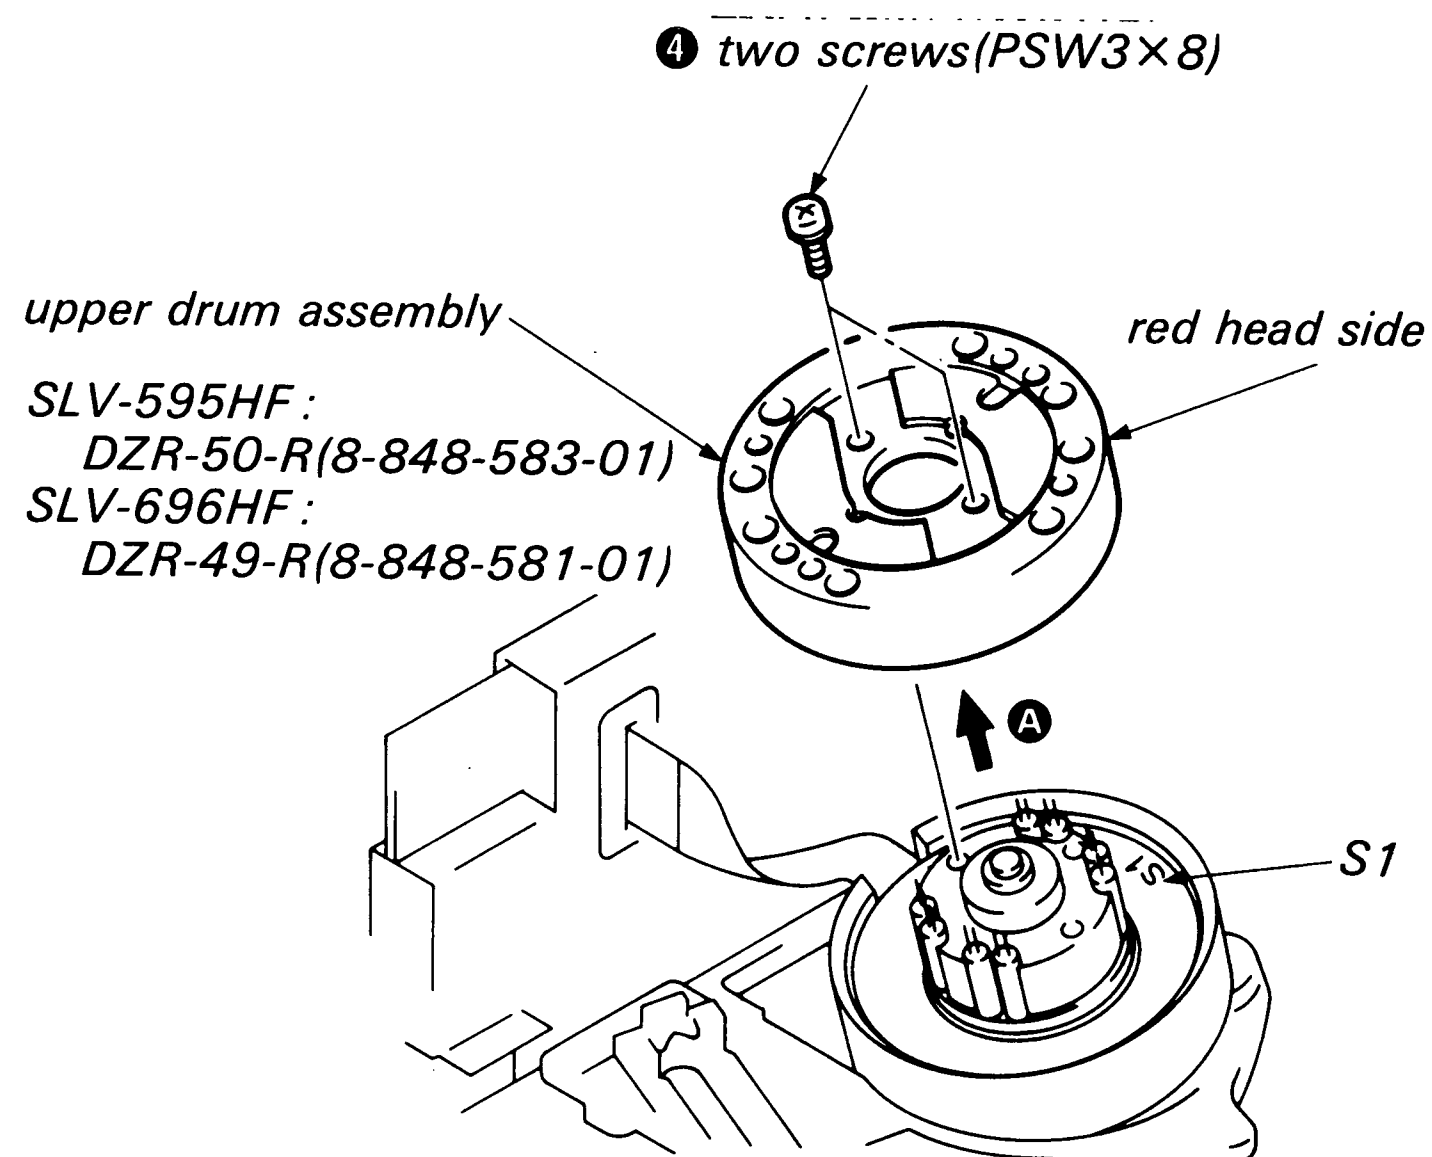

Fig. 5.
- 4) Remove two screws ❹ (PSW3×8) and take out the rotary upper drum in the arrow direction A. (See Fig. 5.)
- 2) Mount the rotary upper drum by aligning red head side with marked S1 of rotary transformer board(lower drum) so that the screw holes of both upper and lower drums match. (See Fig.5.)
- 4) Tighten two screws ❹ (PSW3×8). (See Fig. 5.)